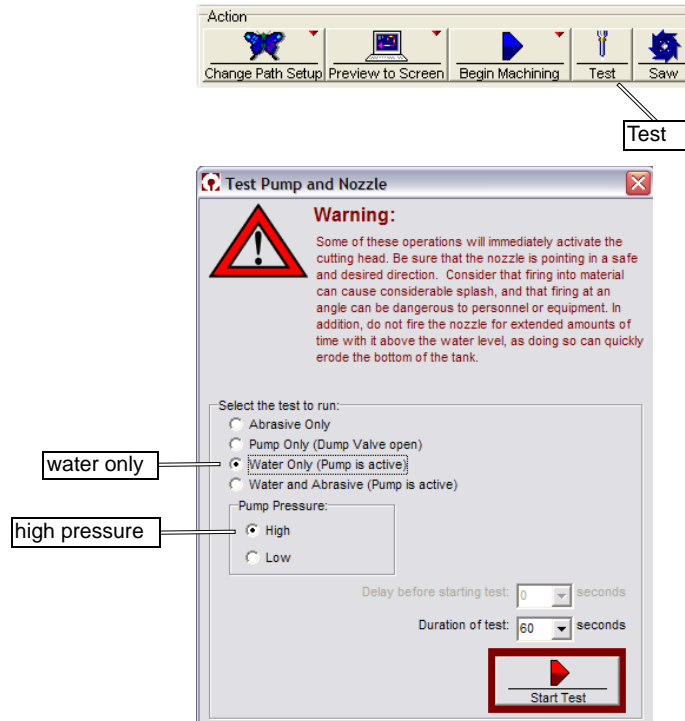

Figure 6-108: Flushing the System with Water Only at High Pressure
- Following installation, test nozzle operation using high-pressure water only. Refer to Figure 6-108.